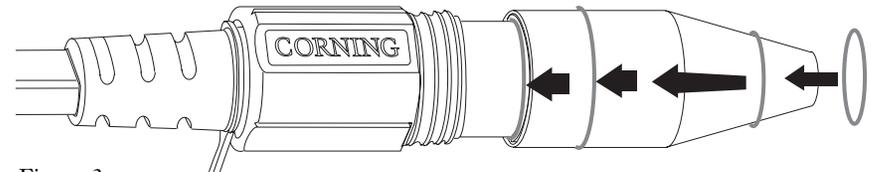

Figure 3
2.2 Slip a 1 mm O-ring over the end of the installation tool and roll the O-ring down the tool until the ring slips off the end of the tool down onto the plug body (Figure 3).